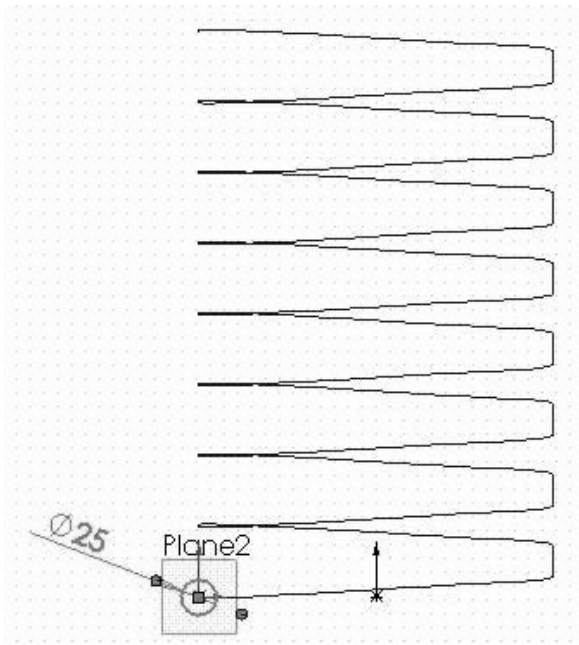

Figure 11 - Profile to sweep
30. Sketch the profile, as shown in the Figure 11. Exit the sketcher after sketching the profile.